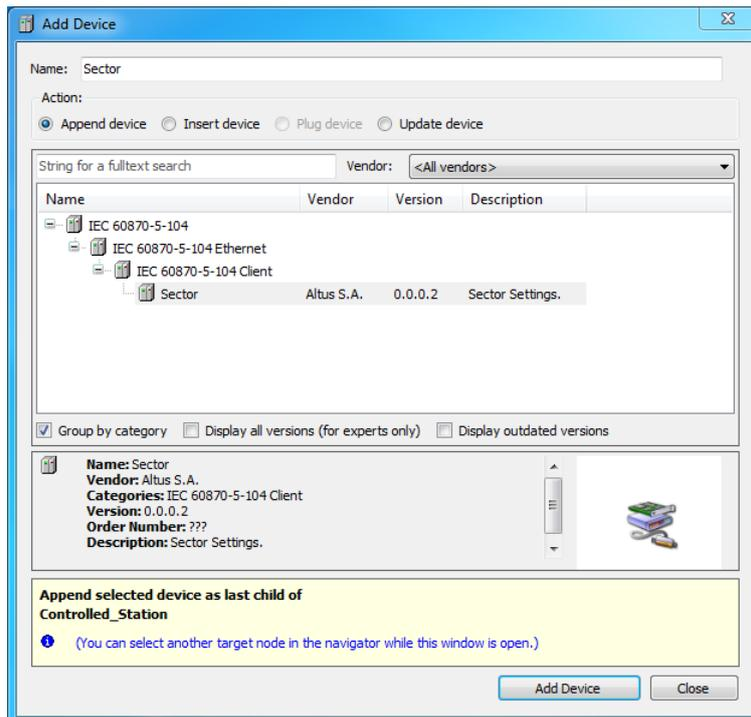

Figure 91: Insert screen of a Sector below a Controlled Station IEC 60870-5-104 Device
5. Add and configure sectors below the Controlled Station device, as shown in the figure 91. There is a maximum limit of 5 sectors for each device.